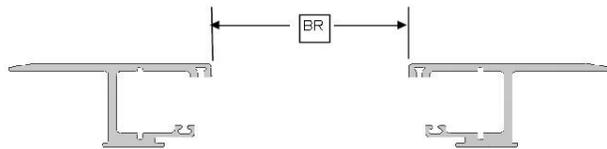

FIG. 5E
Check for proper spacing by measuring between the rails at the canister and the tailgate end of the rails (Fig 5E). The measurement should be equal to or less than those in FIG. 5F. The Rail Brackets and Shims have been pre-installed to achieve the proper Between the Rail dimensions (BR) when placed on an average factory truck bed. However, not all truck beds are average dimensionally and some have optional plastic caps or over the rail spray-in bedliners.